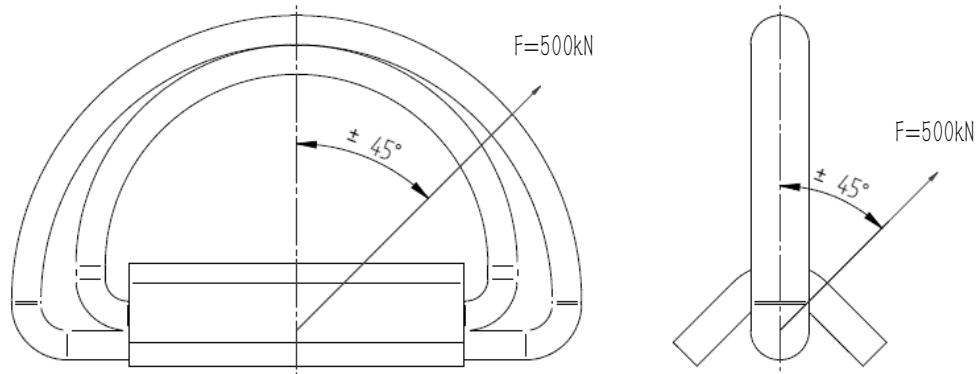

Fig. 5 D-ring operating range at 50t breaking load
The roll trailer is equipped with D-rings on its both side beams and both end beams. This element helps to secure trailer during its transport. Amount D-rings used depends from the load. Each D-ring has 50t braking load (BL) with  $\pm 45^\circ$  angle force as shown on picture below (Fig. 5). Keep in mind that exceeding  $\pm 45^\circ$  force angle affects on breaking load. Do not exceed the indicated load values and angles of force to avoid damage and accidents.